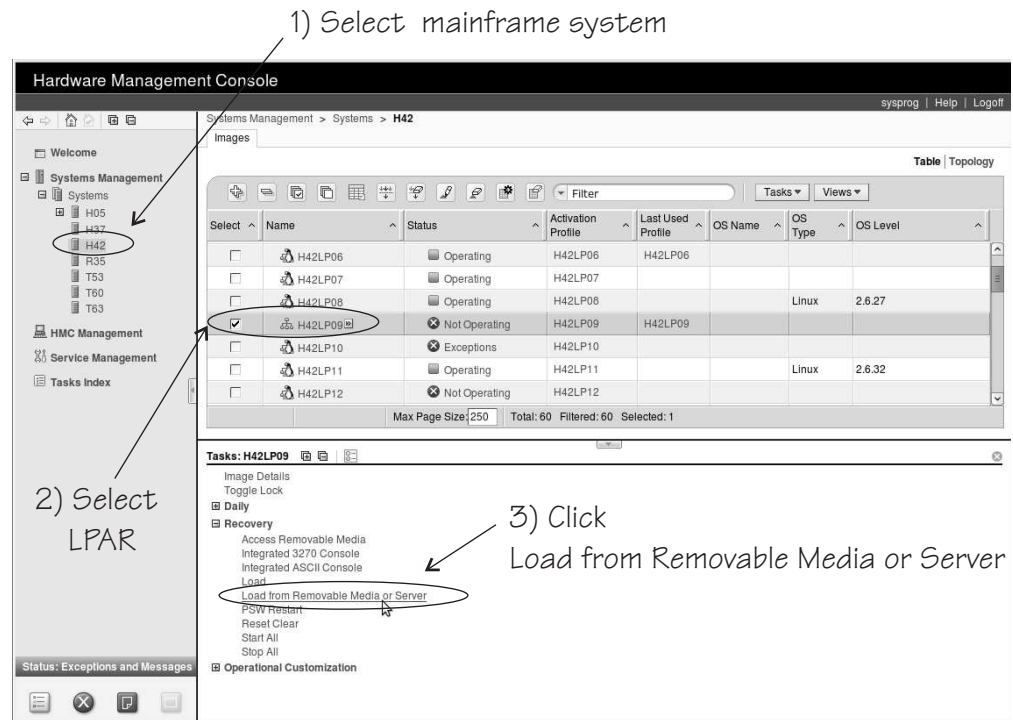

Figure 28. Load from Removable Media or Server task on the HMC
3. In the **Tasks** area, expand **Recovery** and click **Load from Removable Media or Server** (see Figure 28).